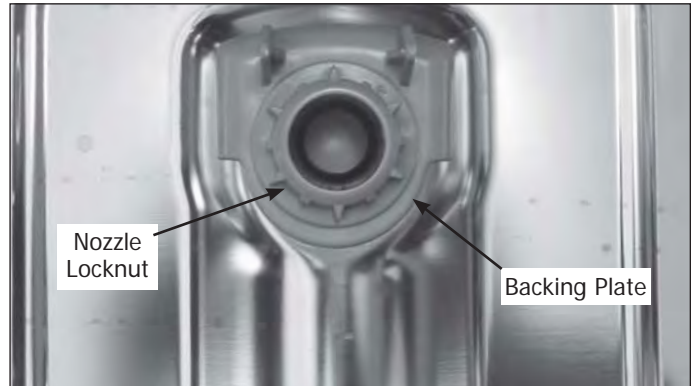

Figure 4-31.
4. Remove nozzle from rear of inner tub. This nozzle unscrews counter clockwise from the delivery tube. The nozzle is very tight. (See Figure 4-31)